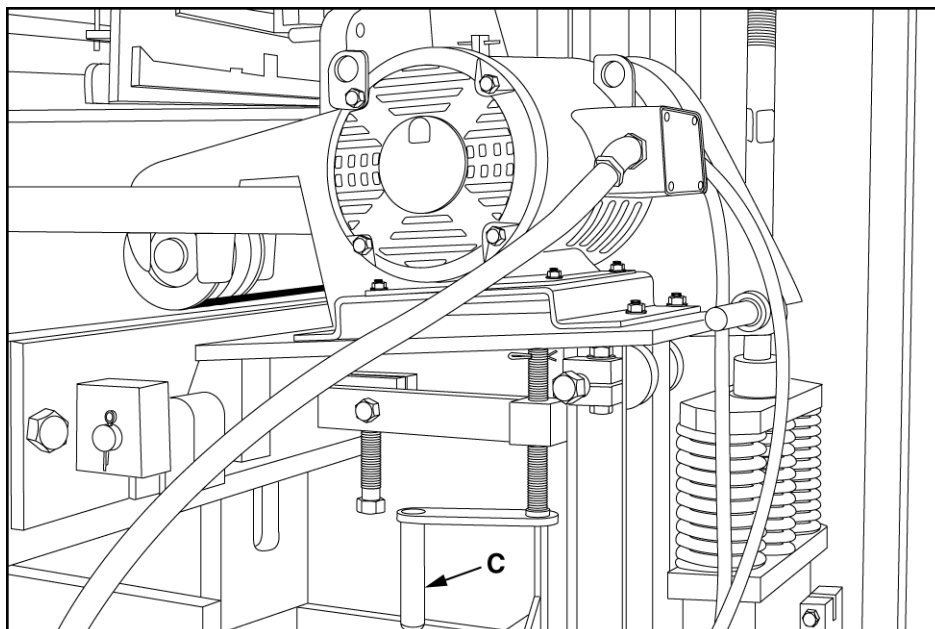

Figure 5.14 RAISING THE VIBRATOR MOTORS WITH SCREW JACK (C)
- 5.4.16 Raise both vibrator motors with screw jacks (C) (see figure 5.14). Screw vibrator jacks up and place V-belts from vibrating motor sheaves to vibrating shaft sheaves. On a standard vibration system, you must install 4 belts on each side. On a Smartpac system, you must install 2 belts on each side.